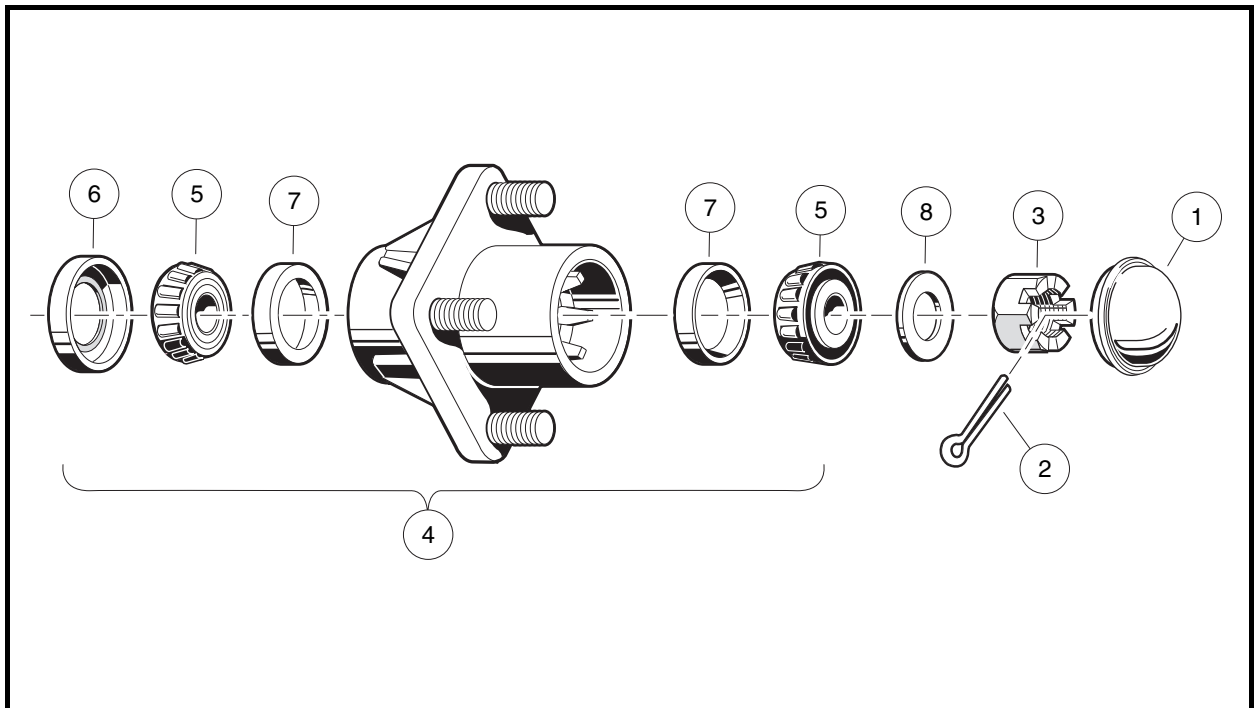

Figure 7-24 Front Wheel Bearings and Hub
2. Using your hands, attempt to rock the wheel and hub assembly back and forth on the spindle. If there is any observable movement of the wheel and hub on the spindle, remove dust cap (1) and cotter pin (2), and then tighten the spindle nut (3) until the bearing (5) fully seats in the bearing race (7).
4. Install a new cotter pin (2). If movement continues, replace the wheel bearings (5) as required (Figure 7-24, Page 7-24).
- 2.1. Remove dust cover (1), cotter pin (2), spindle nut (3), and flat washer (8) (**Figure 7-24, Page 7-24**).
1. Pack the wheel bearings (5) and hub cavities, and lubricate cups (7) with wheel bearing grease or chassis lube. Make sure the grease is forced between the rollers (**Figure 7-24, Page 7-24**).
2. If bearing cups (7) were removed, press new ones in squarely against stops in the hub. **See following NOTE.**